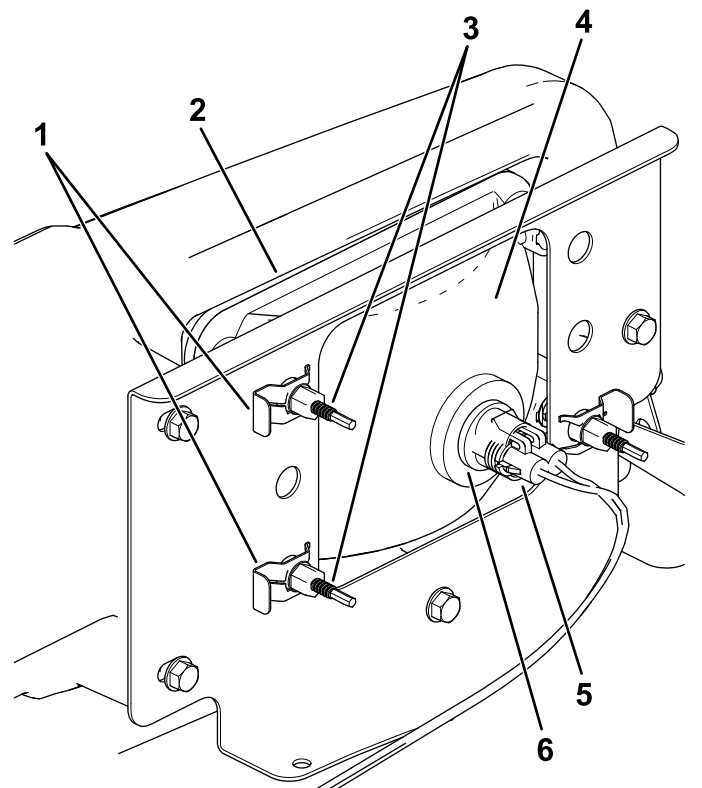

Figure 41
3. Disconnect the electrical connector for the harness from the connector of the lamp assembly (Figure 41).
4. Remove the speed clips that secure the headlight to the headlight bracket (Figure 41).
5. Remove the headlight assembly by moving it forward through the opening in the front bumper (Figure 41).
6. Install the new headlight through the opening in the bumper (Figure 41).
8. Connect the electrical connector for the harness to the connector of the lamp assembly (Figure 41).
5. At the back of the headlight assembly, rotate adjustment screws (Figure 41) to pivot the headlight assembly and align the position of the cast beam.